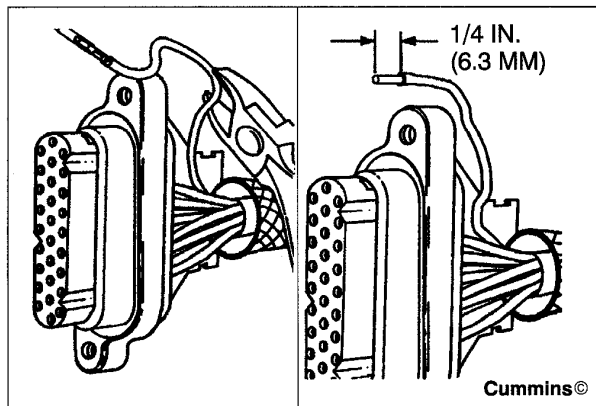

Figure 70 Strip 1/4 Inch From End of Harness Wire
5. The female replacement terminal, wire and splice assembly is Cummins Part Number 3822919. The assembly is 5 inches (127 mm) long. Cut the same length (including terminal) from the damaged terminal/wire in the engine harness. Strip 1/4 in. (6.3 mm) from end of the harness wire (Figure 70).